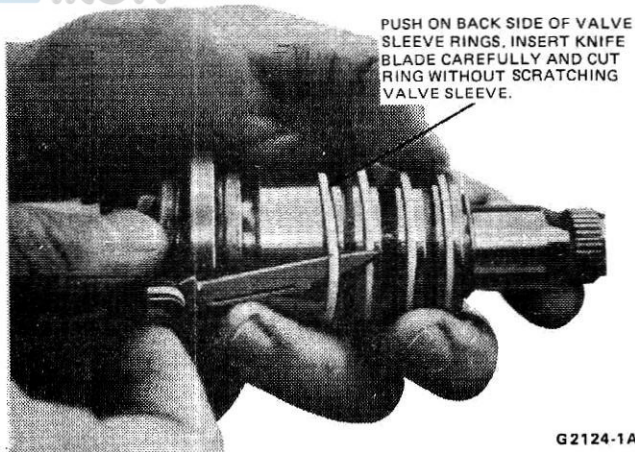

FIG. 13 Removing Valve Sleeve Rings
1. Remove valve sleeve rings from sleeve by inserting the blade of a small pocket knife under them and cutting them off (Fig. 13).